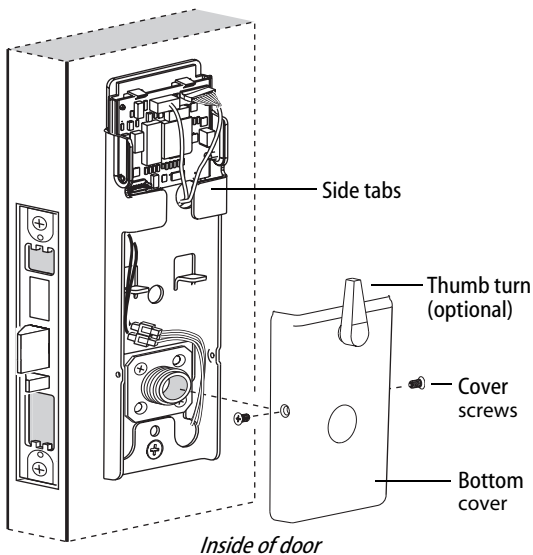

Figure 17 Installing the bottom cover
- 1 Position the battery wires above the side tabs and against the side of the fire plate, as shown in Figure 17.
- 2 **Optional for Thumb Turn option only:** Make sure that the Thumb Turn is in the upright position, as shown in Figure 17.